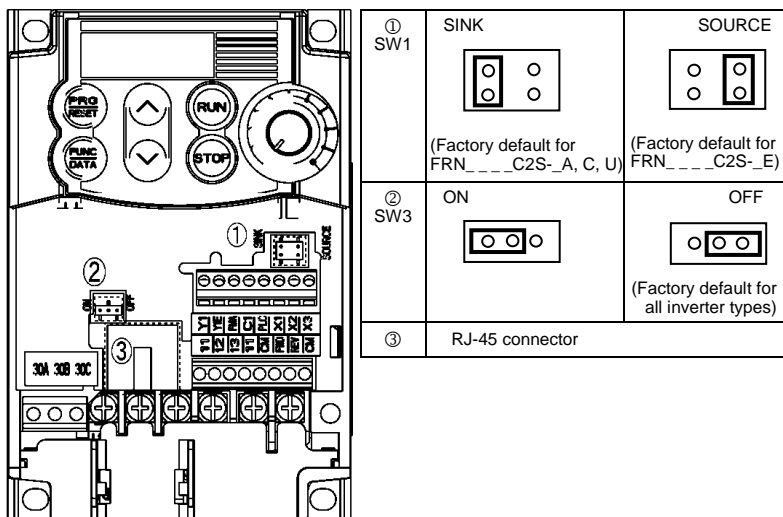

Figure 2.11 Locations of Jumper Switches and RJ-45 Connector
Switching the jumper switches (shown in Figure 2.11) allows you to customize the specifications of the digital I/O terminals and the RS-485 communication terminating resistor.
① SW1	<p>SINK/SOURCE switch for digital input terminals</p> <ul style="list-style-type: none"> • To use digital input terminals [X1] to [X3], [FWD] and [REV] in the SINK mode, set a jumper in the sink position, to use them in the SOURCE mode, set a jumper in the source position. (See Figure 2.11.) • To switch between SINK and SOURCE modes, use a mini needle-nose pliers or the similar tool to change the mounting position of the jumper.
② SW3	<p>Terminating resistor ON/OFF switch for RS-485 communication</p> <ul style="list-style-type: none"> • To connect an optional remote keypad, set a jumper in the OFF position (factory default). • If the inverter is connected to the RS-485 communications network as a terminating device, set a jumper in the ON position. • To switch the terminating resistor ON and OFF, use a mini needle-nose pliers or the similar tool to change the mounting position of the jumper.
Figure 2.11 shows the locations of jumper switches and the RJ-45 connector.